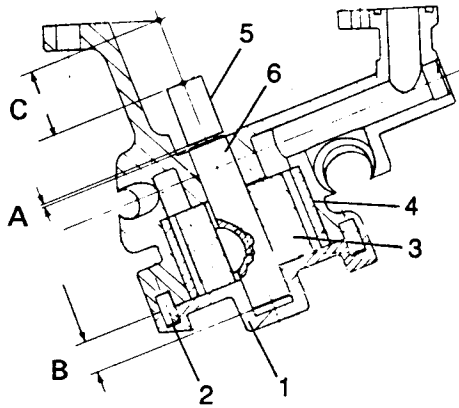

Fig B5.4
- (2) Refer to Fig B5.4. Remove the two screws, spring washers and Allen screw securing the pump cover (1) to the body.
- (3) Remove the cover with O-ring by tapping with a suitable drift on the area adjacent to the dowel bosses (2).
- (4) Identify the rotor lobe (3) with its mating cavity in the outer ring (4) to facilitate correct assembly.
- (5) Remove the outer ring, clean and dry all components.
- (6) Only remove the drive square (5) if it is to be replaced. Grip the square at the driving end and drift out the rotor shaft (6).
The chamfer on the shaft at the shoulder should be visible when the rotor assembly is seated in the body. If the chamfer is not visible check the fitted dimensions of the rotor and shaft as shown in Fig B5.4.